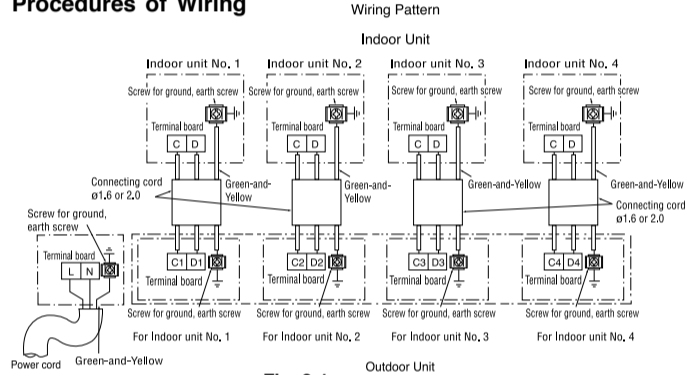

Fig. 3-1
- (1) Connect the electrical wiring between the Indoor and Outdoor unit, as shown in Fig. 3-1. Never connect the wiring by mistake. In case of wrong connection, the unit does not operate properly and it may cause malfunction.
- (2) The connecting cord must be fixed by the band which is located near the terminal board.